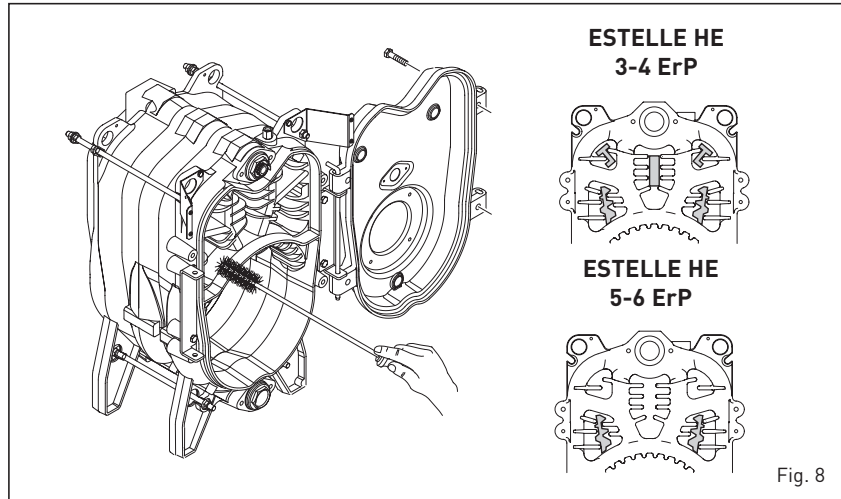

Fig. 8
3.3.1 Smoke side boiler (fig. 8)